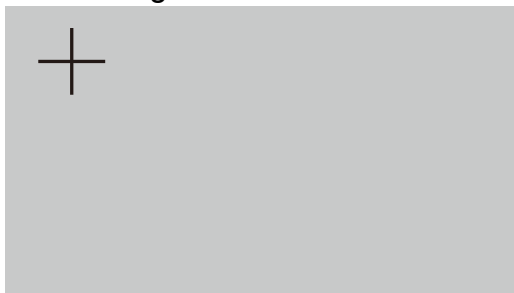

figure17-1
1、 Press [STOP] and [T], as shown in figure17-1
5、 Press “+” ,as shown in figure17-1, then press “+” ,complete this calibration